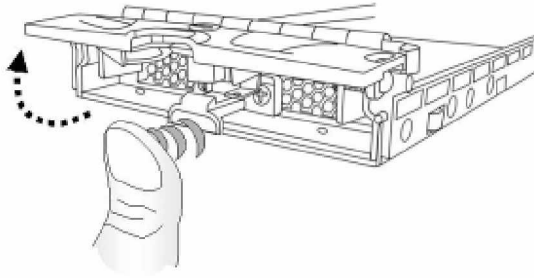

Figure 5-21: Opening the Front Flap
-  **Step 3. Open the front flap** by pushing the button at the front of the drive tray. (See *Figure 5-21*) The drive tray front flap will automatically be lifted and the drive tray will be dislodged from the chassis.